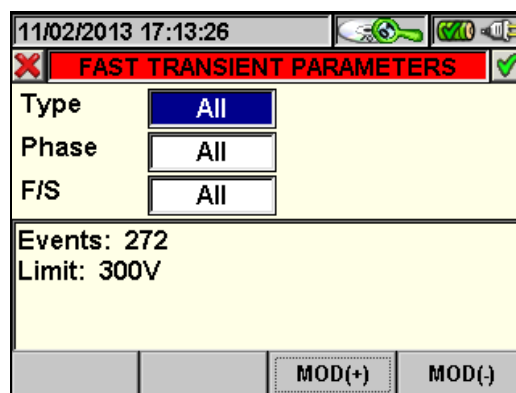

Fig. 125: Spikes parameters
- The **F2** key (or the **PARAM** item on the display) accesses the page which shows the settings made for the Spikes (see Fig. 125)